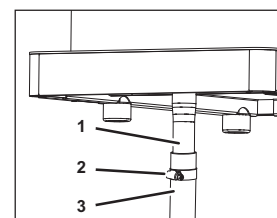

Fig. 15
1. Remove the tubing clamp (Fig. 15/2).
2. Remove the tube (Fig. 15/3) from the drain fitting (Fig. 15/1).